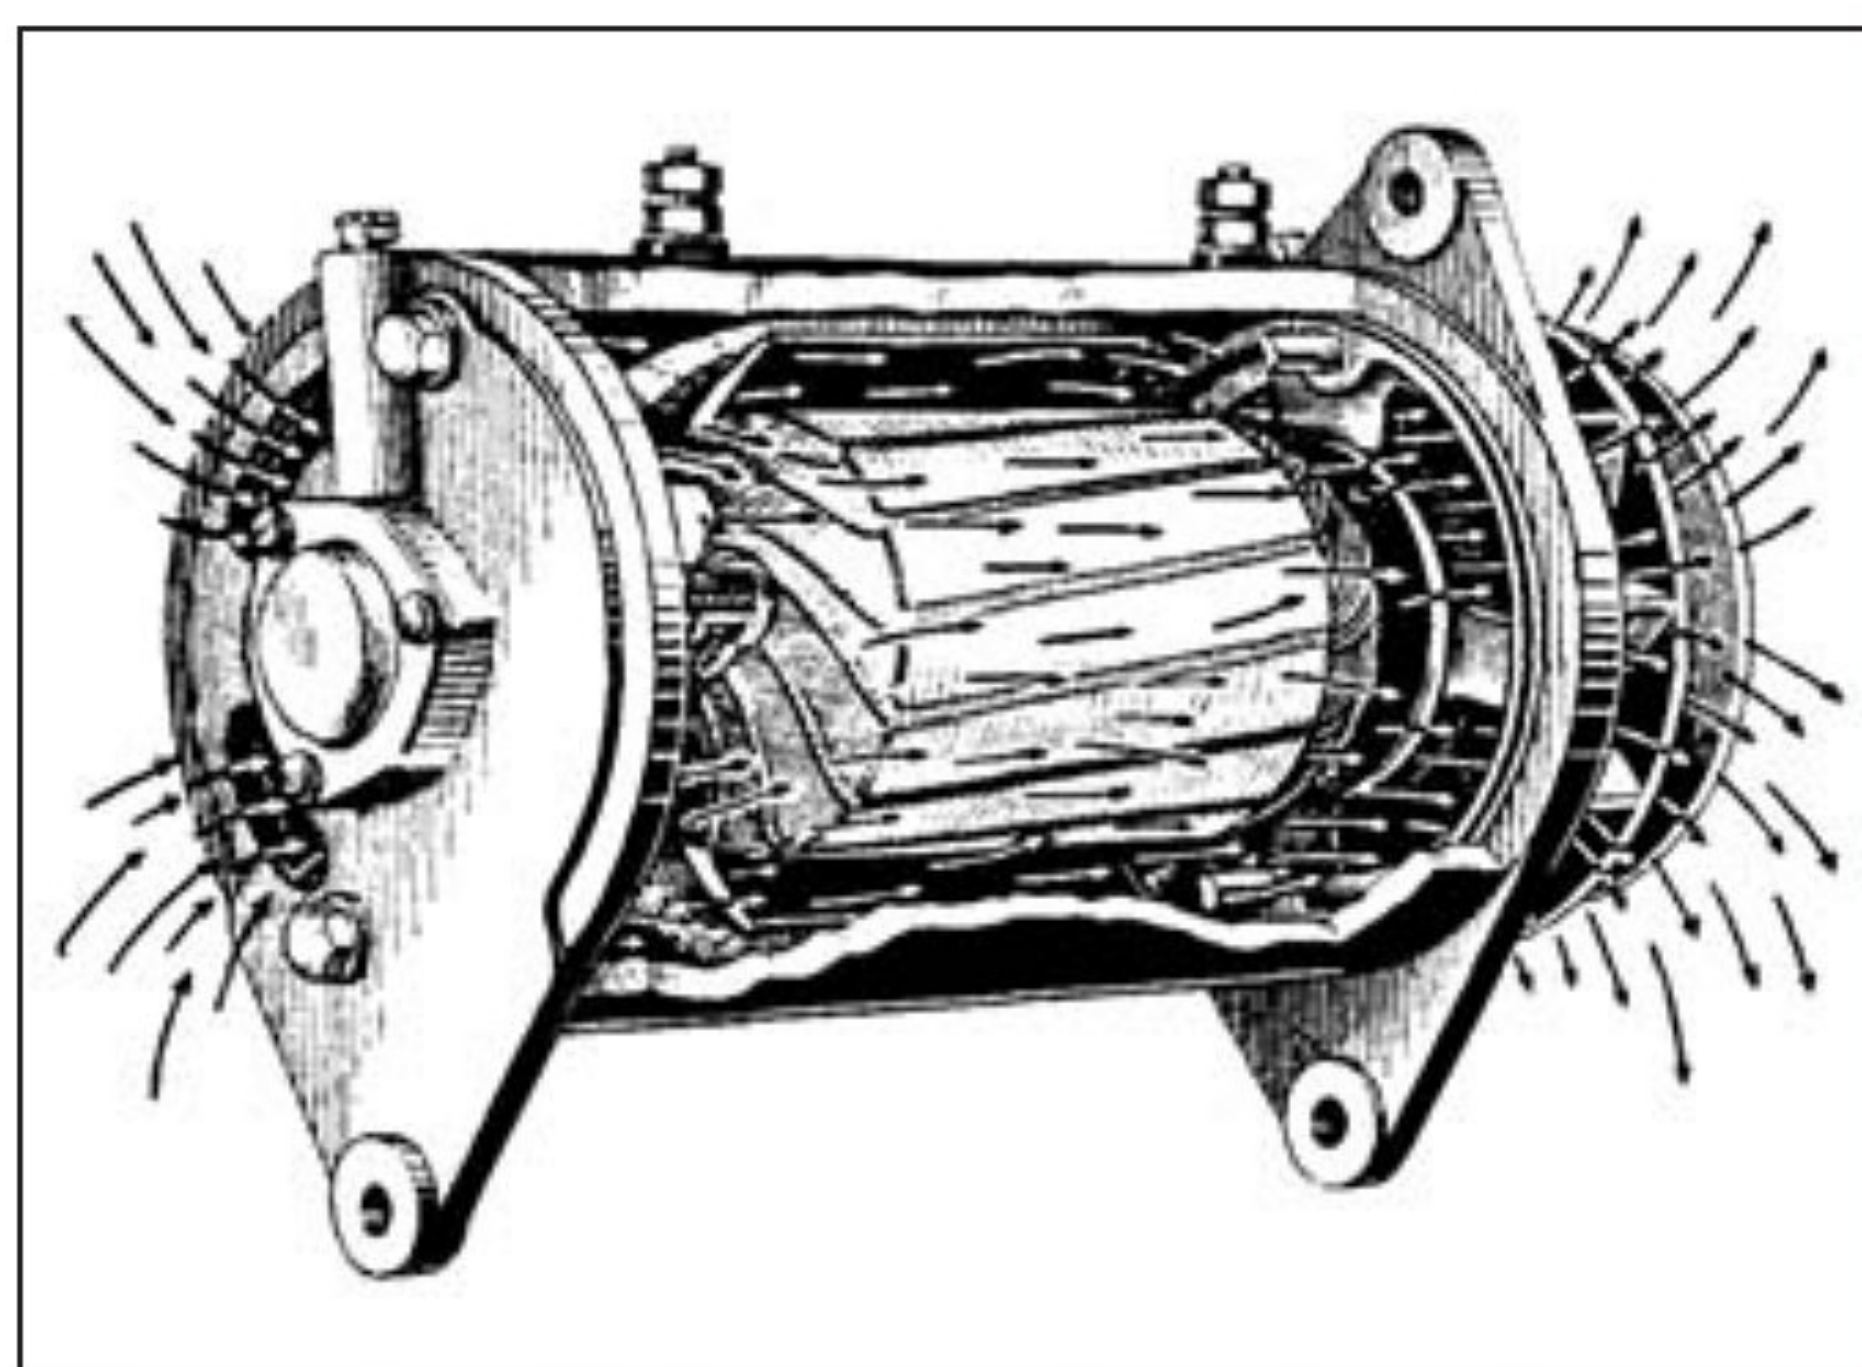

Figure 6—Cut-away view showing method of ventilation
- c) **AIR COOLING**, accomplished by means of a powerful centrifugal fan, incorporated in the generator drive pulley, allows the generator to carry its heavy load without danger of overheating. A generator thus ventilated (Figure 6) will carry a greater load than an enclosed machine, and still run from 80 degrees F to 100 degrees F cooler.